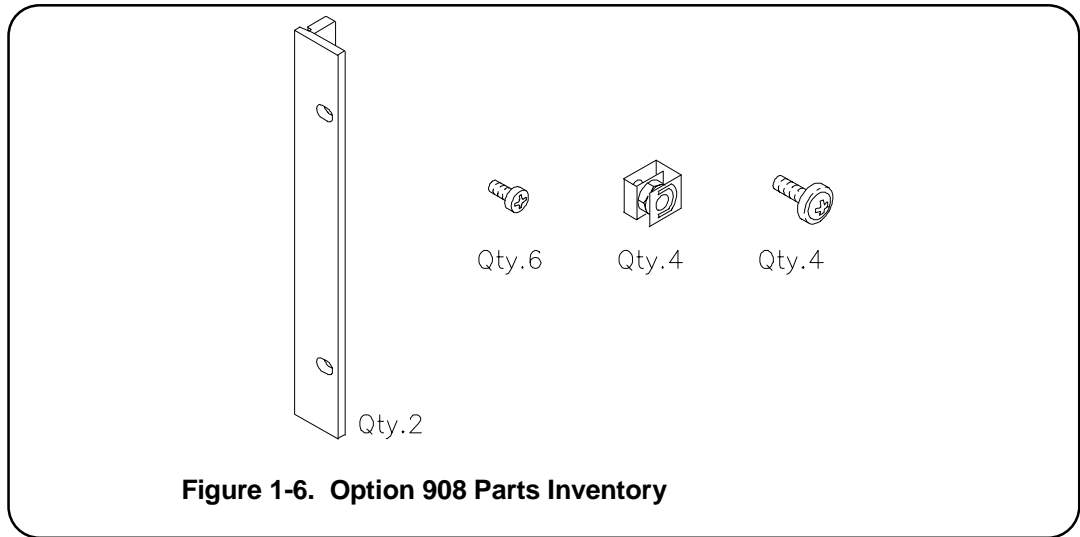

**Figure 1-5. Grounding Screw and Toothed Washers**
**Grounding Procedure** Connect a 16 AWG (1.3 mm or larger) wire to the PEM nut shown in Figure 1-4. The wire must be green with a yellow stripe or bare (no insulation). Use a M4 x 10 screw, grounding lug, and toothed washers (or toothed lug) as shown in Figure 1-5. Securely attach the other end of the wire to a permanent earth ground using toothed washers or a toothed lug.